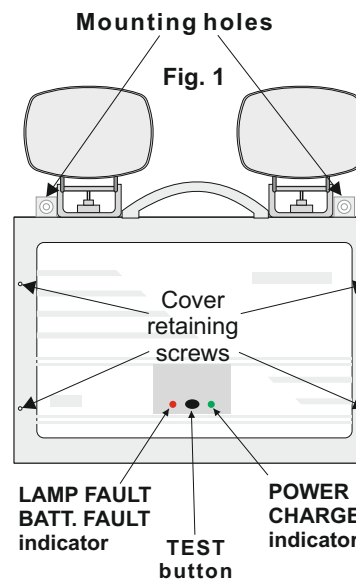

Fig. 3
5. If you use a module, open a hole from the other side of the luminaire (Fig.3). Install the cable grommet and pass the 2 signal cables on the C,NO terminal (Fig. 4), minding the correct polarity. Depending on the module that will be used, the cables, have different names. In C, signal +L, A are also connected, while signals -L, B in the terminal NO (Fig.4).